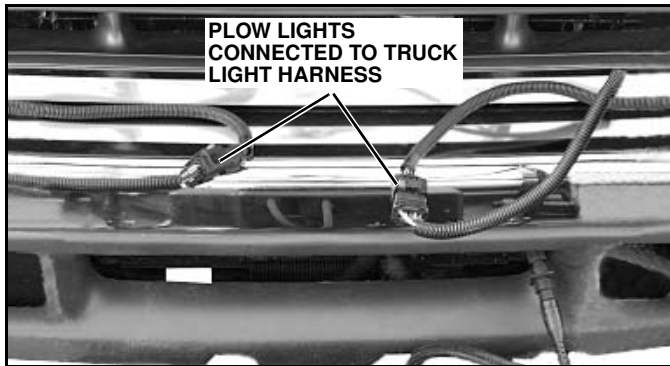

Figure 1-36
3. Turn Down Pressure OFF. Disconnect the plow lights from the truck light harness. (See Figure 1-36). Disconnect the plow control harness and replace the protective cap.